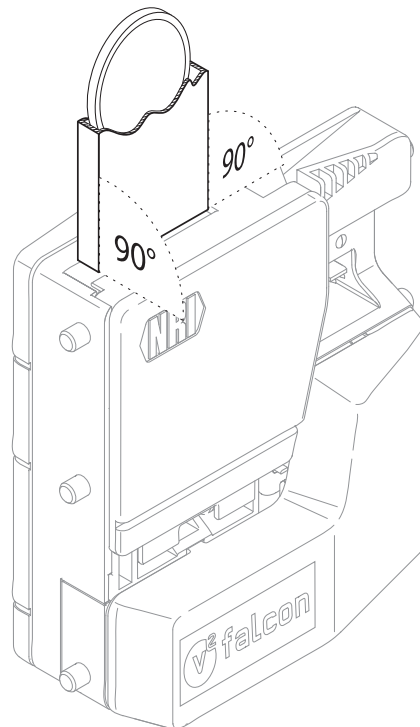
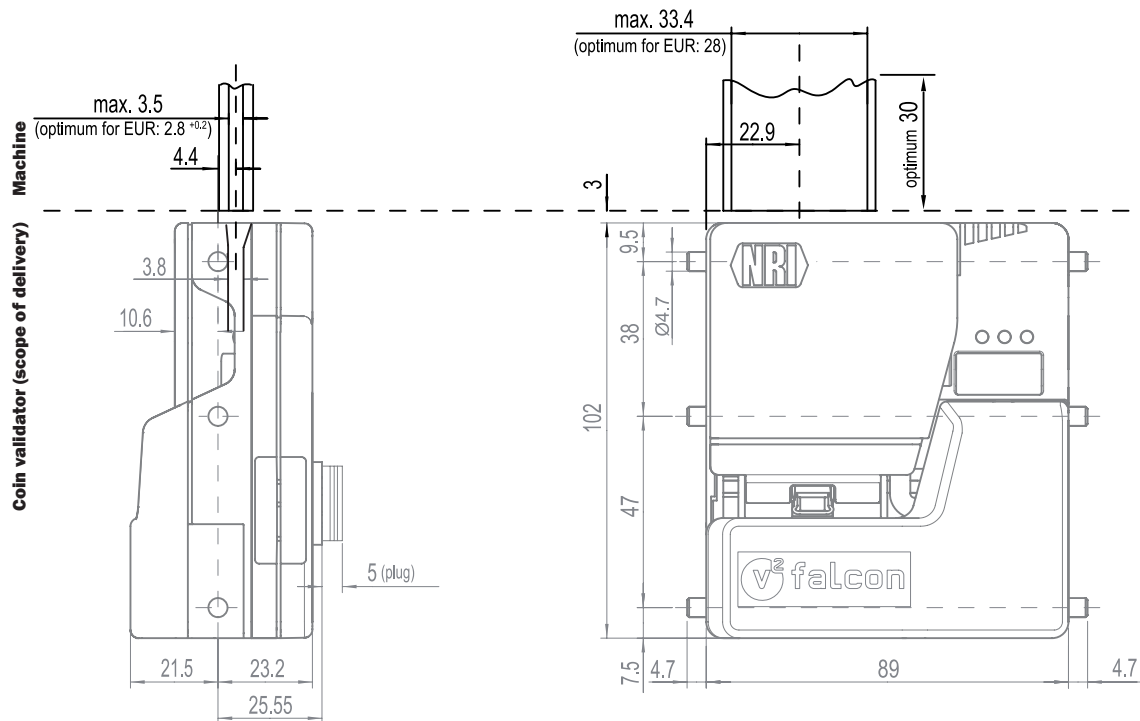

Fig. 8: Vertical coin feeder (to be provided by the customer)
Fig. 9: Installation dimensions for installation of coin feeder (to be provided by the customer)
In order that the coins inserted into the machine fall into the coin validator so that they can be measured properly and not become stuck in the validation area, the customer must provide a coin feeder suited for the coin validator [Fig. 8/] [Fig. 9/].
- 6** Install coin feeder (provided by the customer) above the coin validator [Fig. 8/] [Fig. 9/].